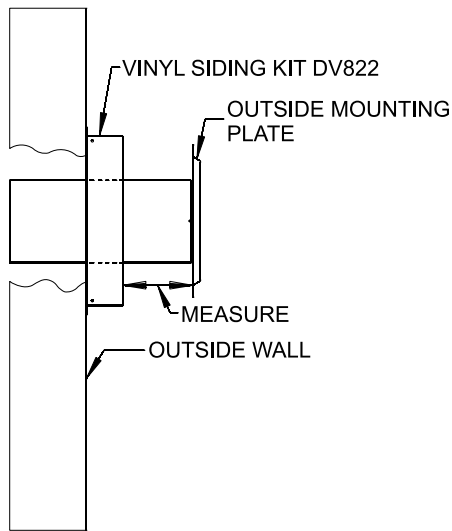

Figure 53
6. With the vinyl siding kit installed to wall (if necessary), insert the 6 5/8" (168 mm) diameter tube with outside mounting plate attached through hole in wall. Connect to collar on fireplace or rigid vent system. Measure between wall or vent cap extension and outside mounting plate (**Figures 53 and 54**).